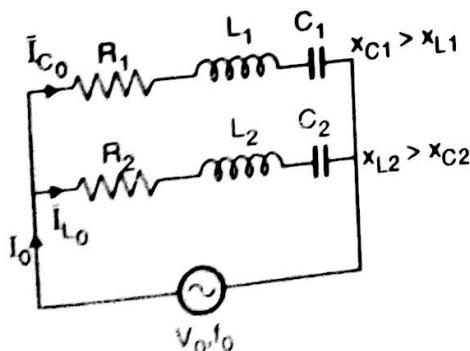

Fig. Q. 2.26
**Q. 45** What is the condition for resonance for the following circuit ? (Refer Fig. Q. 2.26)